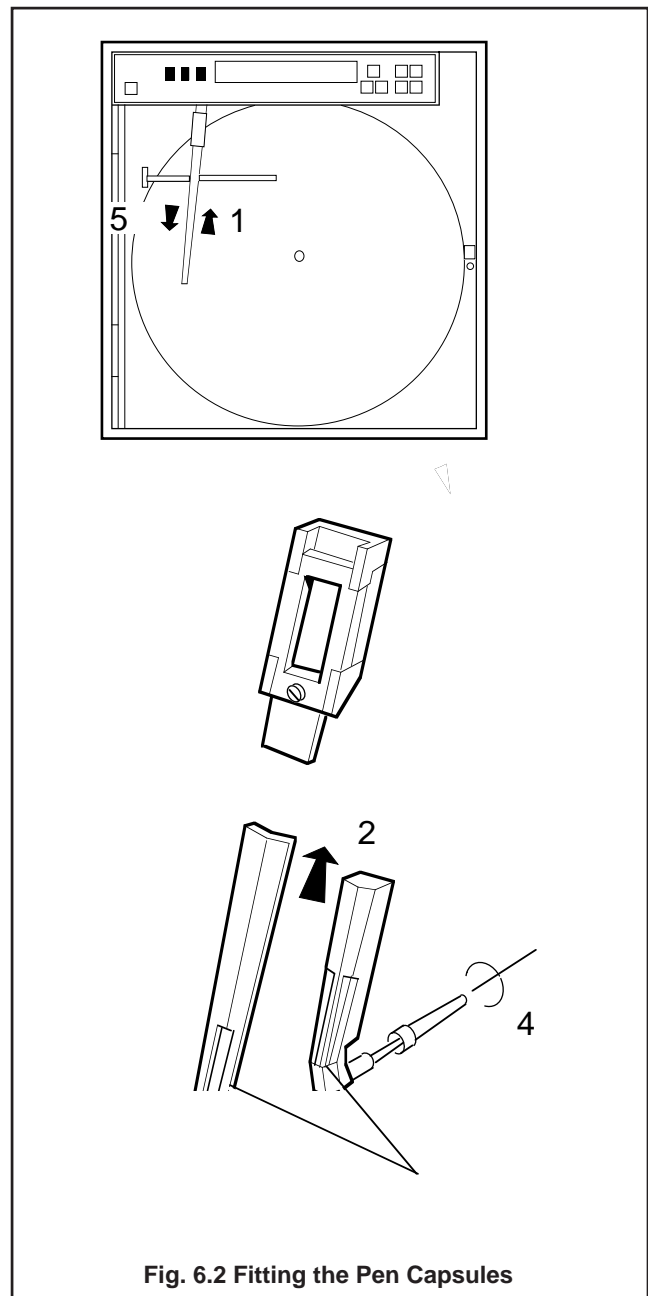

Fig. 6.2 Fitting the Pen Capsules
6.3 Fitting the Pen Capsule(s) – Fig. 6.2
With reference to Fig. 6.2: